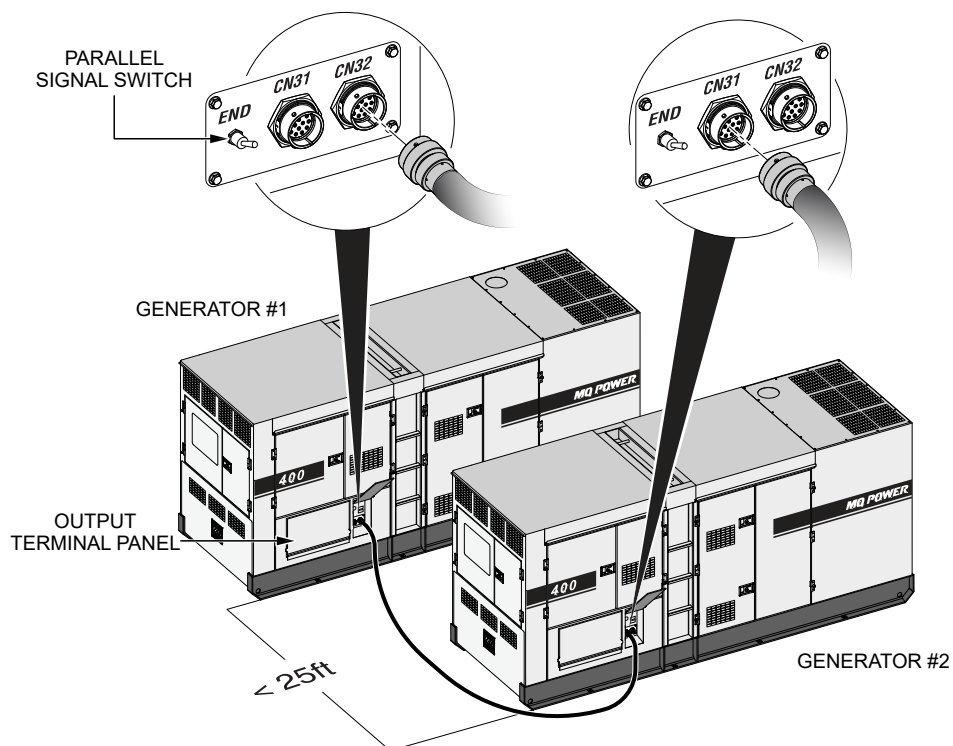

Figure 81. Communication Cable Connections (Two Generators)
1. Make sure the spacing between each generator does not exceed **25 feet (7.62 m)**. See Figure 81.
2. **On generator #1**, connect the male end of the 25-foot (7.62-meter) communication cable to the female parallel operation receptacle labeled **CN32** (Figure 81).
3. Connect the female end of the communication cable to the male parallel operation receptacle labeled **CN31** on **generator #2** (Figure 81).
4. Place the **Parallel Signal switch** on each generator in the **END** position (Figure 81).